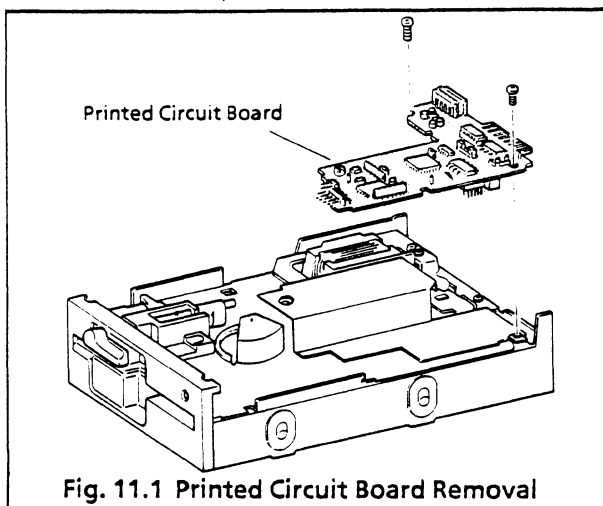

Fig. 11.1 Printed Circuit Board Removal
11.1 PCB Removal and Installation (See Fig. 11.1)